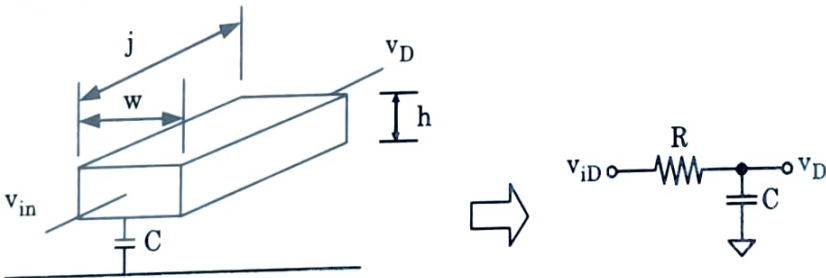

Fig. 2.6.1. Lumped RC model of wire channels.
1. When the physical dimension, in particular, the length, of a wire channel is much smaller as compared with the wavelength of the signal passing through the channel, the channel can be treated as a lumped element with its characteristics depicted by a low-pass RC network, as shown in Fig. 2.6.1, with